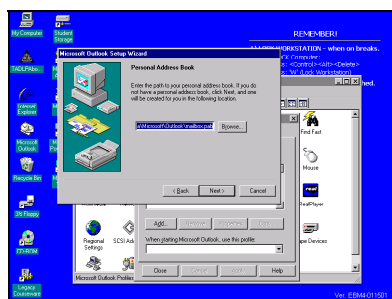

FIGURE II.9
- 9) Use the default unless you have a shared network drive you may wish to keep your address book on. If so, then browse to the location. (see figure II.9) When done press “Next” to continue.